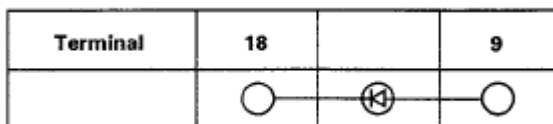

Fig. 116: Testing Remote Switch Using Diode Tester Between Terminals In Each Switch Position
5. Use a diode tester between the terminals in each switch position (see **Fig. 116**).